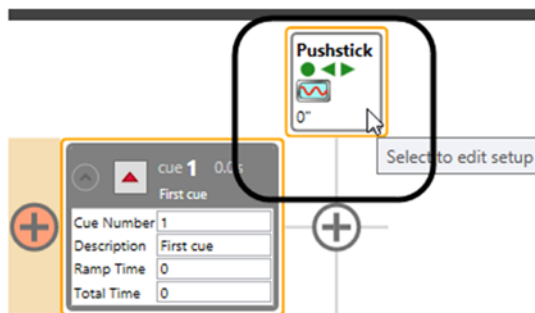

Figure 79
2. Select the motor or FX you wish to connect to by clicking on it in the **Cue Grid**. An orange highlight will appear around the selected motor (Figure 79).